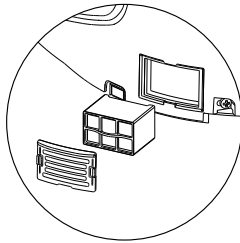

Fig 2
- Remove cartridge cover as shown (fig 2).
- Pull deodorizer block out (fig 2).
- Move cover forward and release from mounting board (fig 2).